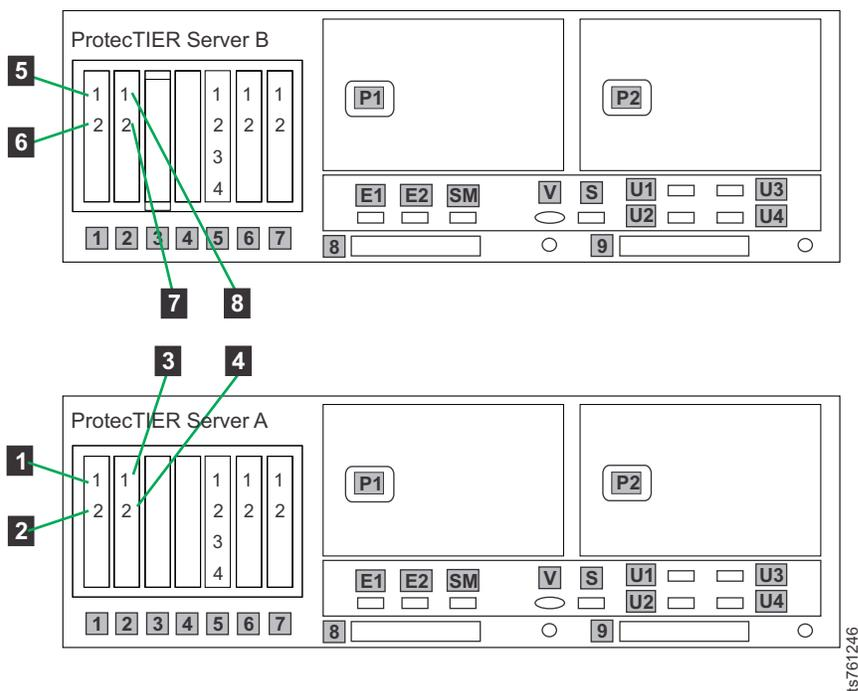

Figure 34. Server B customer host network Ethernet ports for 10 Gb OpenStorage configuration, FC 3457
- b. Remove customer host network Ethernet cables from Server B ports that are labeled **5 - 8** in Figure 34. Not all of these connections might exist, depending upon the customer.